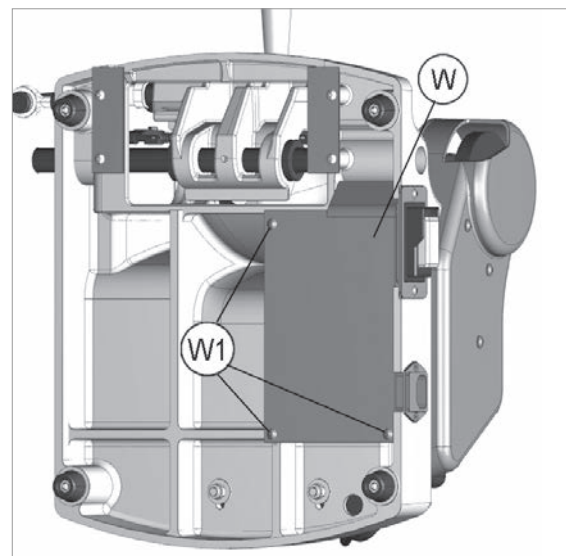

Fig. 36
- 4) Loosen the 3 screws (W1) and remove the plate (W) (Fig. 36).